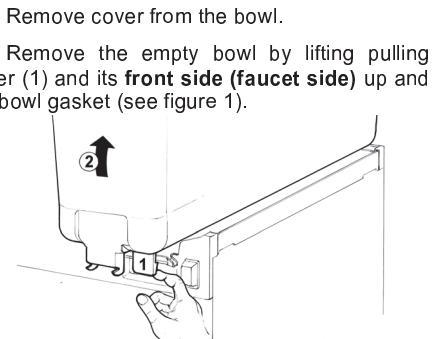

figure 1
- 4** Remove the empty bowl by lifting pulling lever (1) and its front side (faucet side) up and off bowl gasket (see figure 1).
- 5** Pinch tube faucet: push the dispensing handle (1) and take the pinch tube off from its